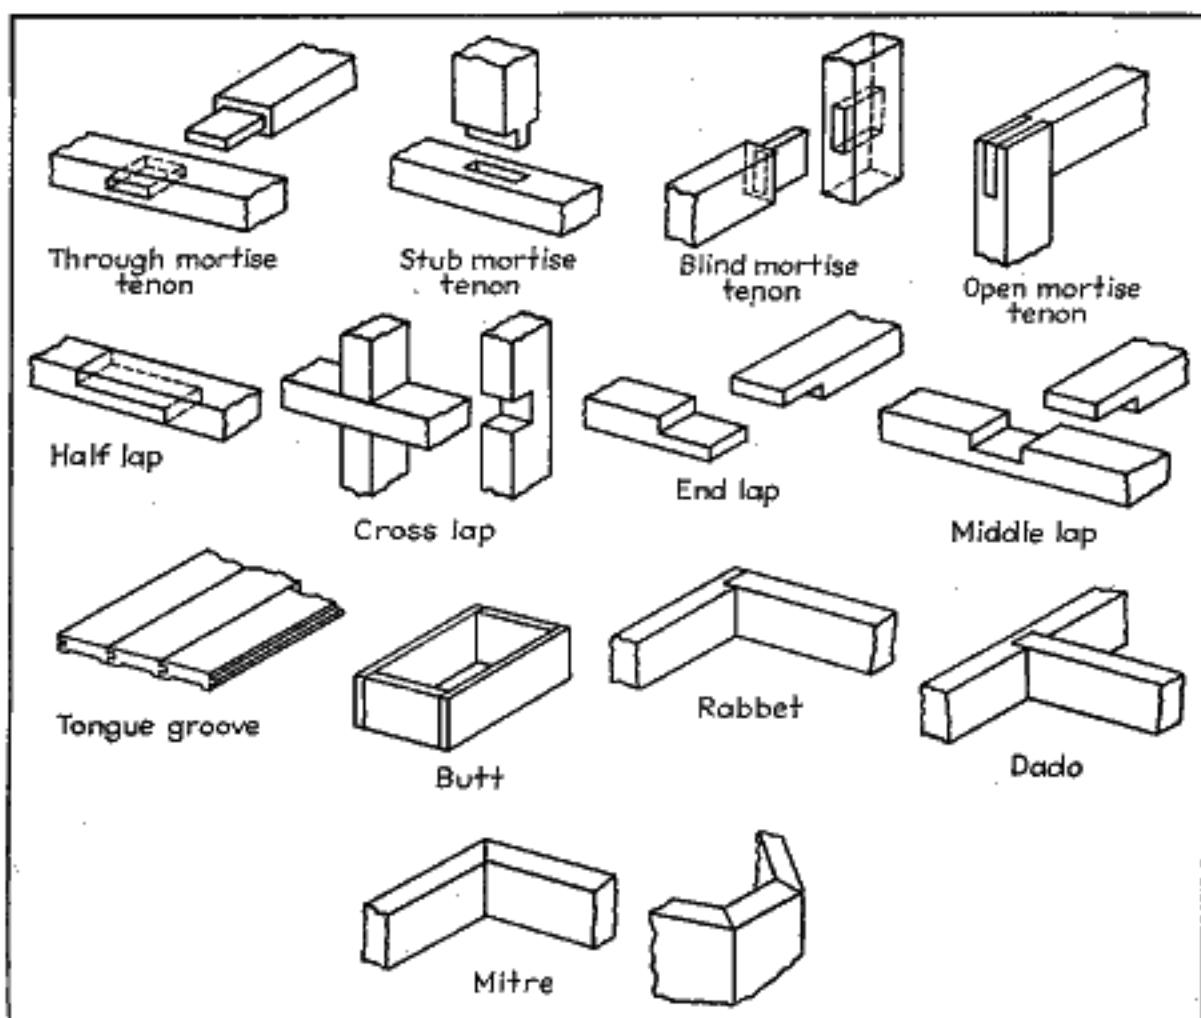

FIG. 54.—Common wood joints.
**54. Mortise-and-tenon Joints.**—A mortise is a hole cut into or through one piece, and into which, or through which, another piece fits. A tenon is an end of a piece specially shaped (usually with a shoulder) to fit into a mortise. Figure 54 illustrates several mortise-and-tenon joints as well as other joints commonly used in fastening pieces of wood together.